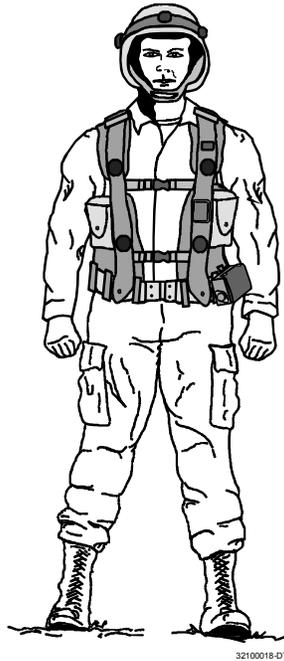

Figure 2-6. Torso Harness Installation (PN 147421).
- d. Put vest on and fasten two vest clips. (See Figure 2-6.)